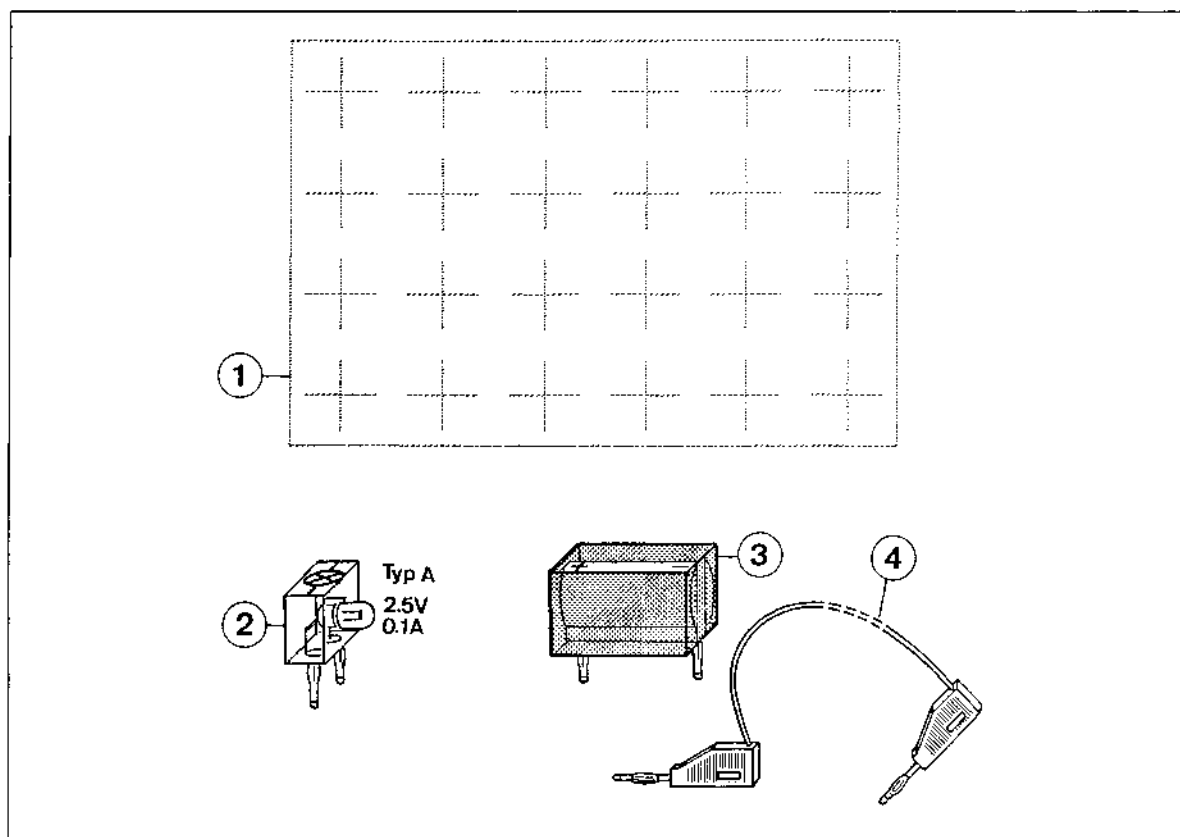

Fig. 1 Apparatus simple circuit
1. Fit the monocell to the layout plug-in board using the monocell holder (fig. 1).
3. Construct a circuit using the monocell as the power supply unit and the lamp as the current indicator. Fig. 1 illustrates the equipment you can use.